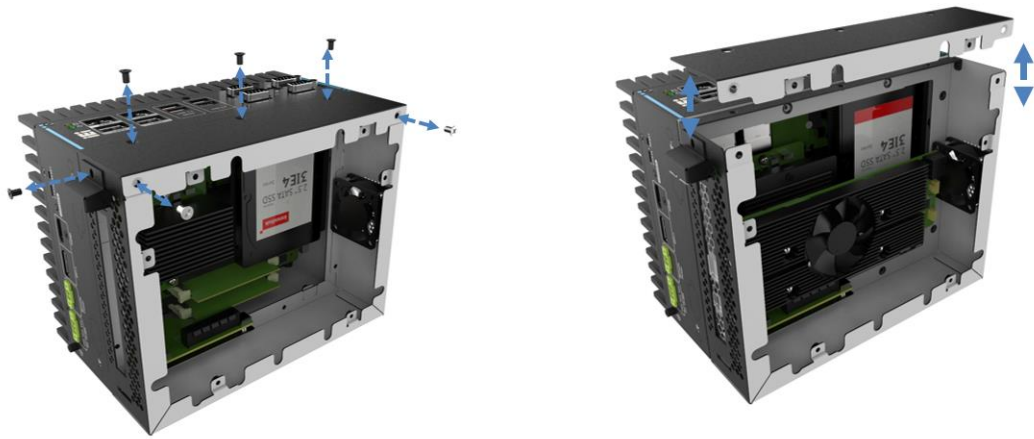

Figure 3-10: Expansion Chassis Installation
Step 3: To install an expansion card, open the cover on the top cover of the expansion chassis by removing 5 screws. Remove the blank bracket and install the PCIe card. Reinstall the bracket screw and the top cover after installing the card **(Figure 3-10)**.